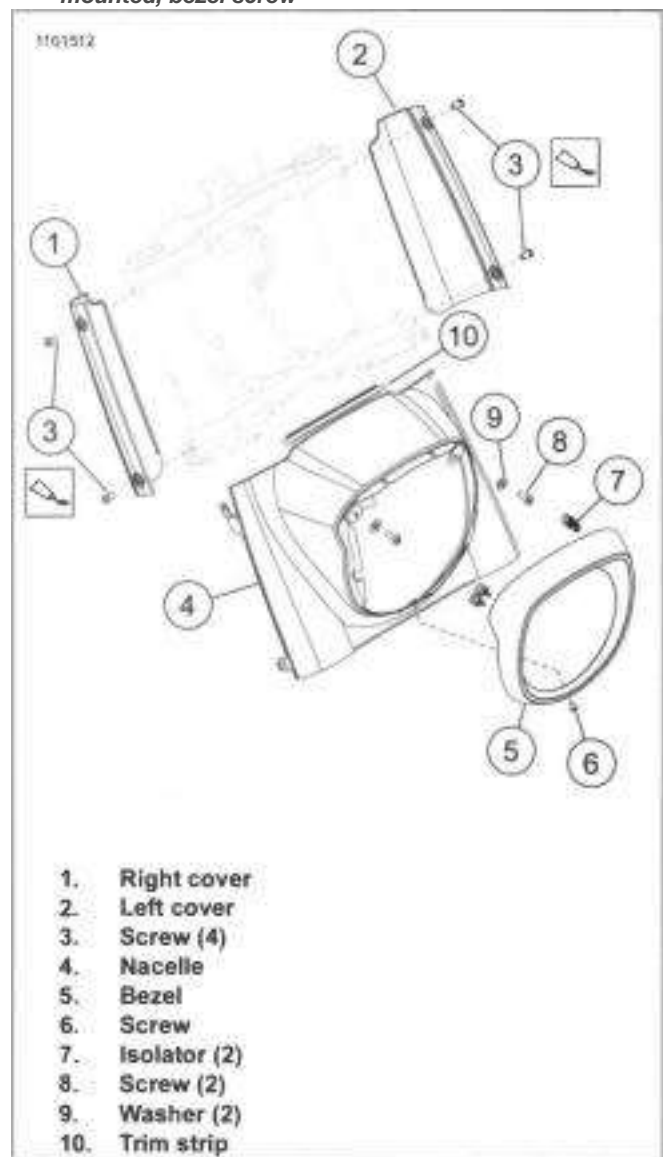

Figure 3-107. Nacelle Mounted
1. See Figure 3-107. Remove screw (6).
*Bezel is under pressure from isolators (7), disassemble slowly.*
1. See Figure 3-107. Inspect trim strip (10). Replace if necessary. See MEDALLIONS, BADGES, TANK EMBLEMS AND ADHESIVE STRIPS (Page 3-156).
2. Install nacelle (4) and right cover (1).
3. Apply threadlocker and install screws (3). Tighten.